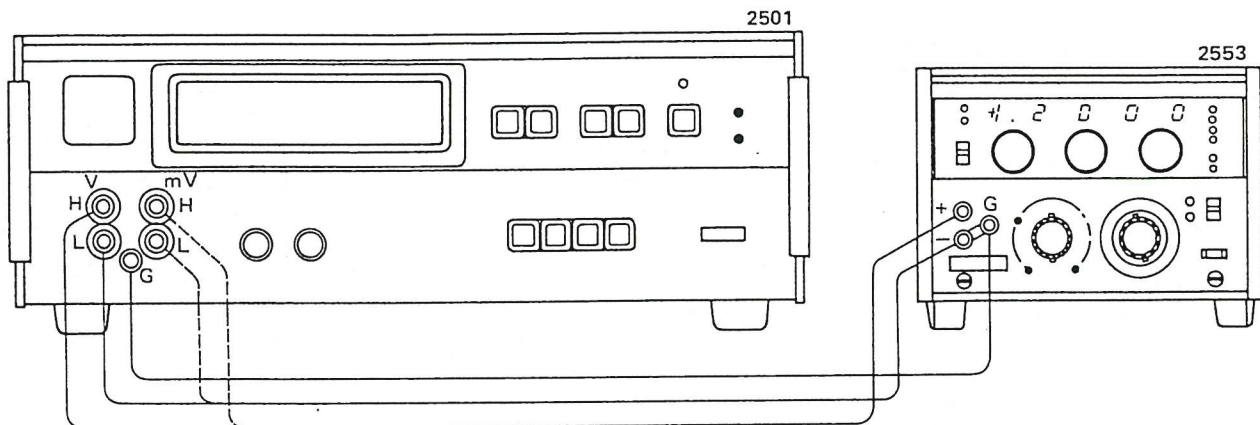

Figure 5-2. Setup for Voltage Range Calibration.
- c) Connect the Type 2501 between the output terminals of this instrument as shown in Figure 5-2.